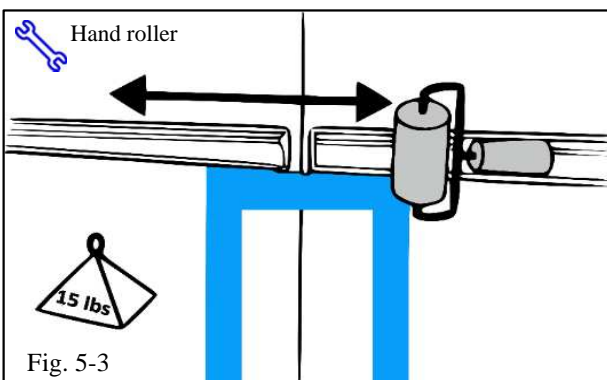

Fig. 5-3
- (e) Using the hand roller and a clean cloth, roll around the perimeter of the parts with 15 lbs of force to ensure complete adhesion of the tape to the door surface. Use the cloth to protect the sheet metal and the body side molding (Fig. 5-3).